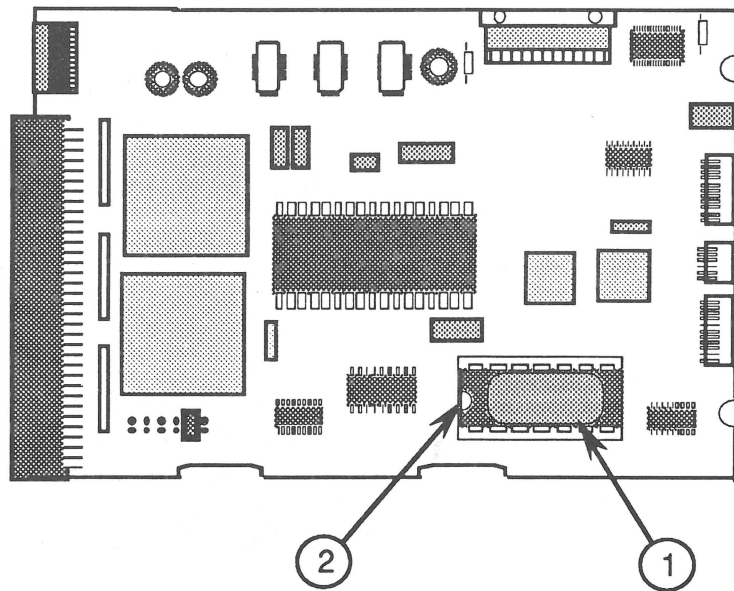

FIGURE 1
2. Compare the layout of the service module's controller board to the board layout shown in Figure 1, and locate the 28-pin ROM chip (Figure 1, #1) at U201 on the controller board.
1. Remove the new PROM from its packaging material. Handling the new PROM by the body only, position it over the socket so that the notch on the PROM (Figure 1, #2) faces the 50-pin SCSI connector at the end of the controller board.